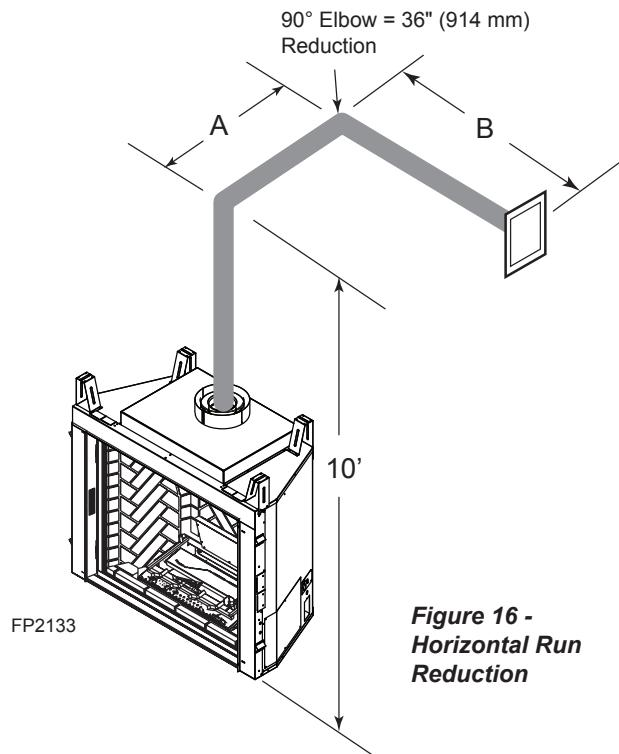

Figure 16 -
- If a 90° elbow is used in the horizontal vent run (level height maintained) the horizontal vent length is reduced by 36". *Figure 16*. This does not apply if the 90° elbows are used to increase or redirect a vertical rise.
In *Figures 16 and 17* dimension A plus B must not be greater than 14½' (4.4 m).